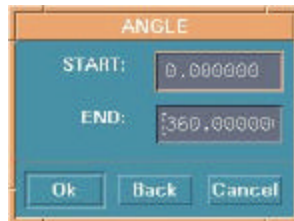

Figure 6.2.2 Revolution Angle
- Enter the start and end angles in the dialog window. See Figure 6.2.2. The surface will be generated after the window is closed.